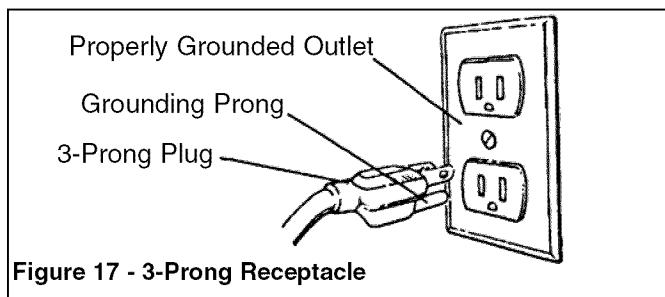

Figure 17 - 3-Prong Receptacle
This tool is equipped with an approved 3-conductor cord rated at 150V and a three prong grounding type plug (see Figure 17) for your protection against shock hazards.
- Grounding plug should be plugged directly into a properly installed and grounded 3-prong grounding type receptacle, as shown (Figure 17).